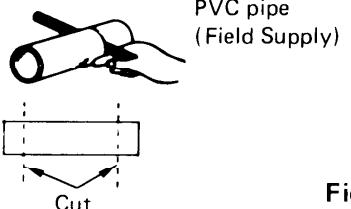

Fig. 8
- f) Measure thickness of wall from inside edge to outside edge and cut PVC pipe at a slight angle. Fig. 8